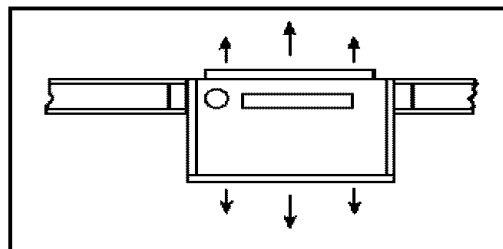

FIGURE 15
12. Final installation will appear as Figure 15.